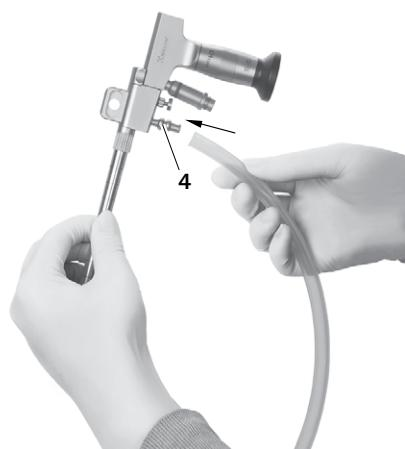

Fig. 20
- ▶ Connect the irrigation tube with the irrigation connector **4**, see Fig. 20.